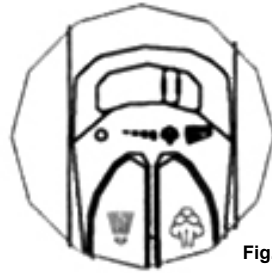

Fig. 3
- Position variable steam control to the burst of steam position. (Fig. 3)
- Slide the variable steam control up to increase the amount of steam. (Fig. 3) When using extra steam, the iron uses more water and it may be necessary to fill the tank more often. See page 4 for refilling the iron with water.